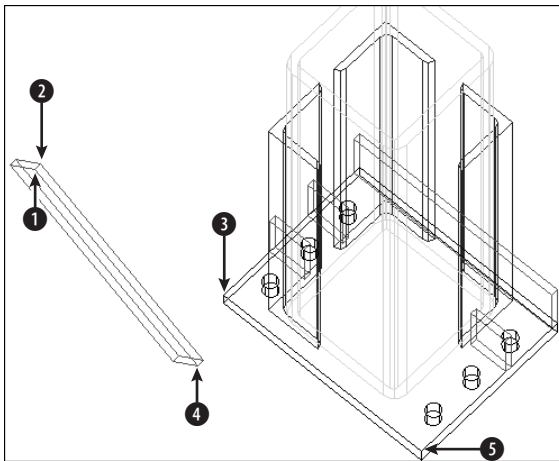

Figure 24-30: Part of a base assembly for an industrial washer with a sidebar that needs to be moved and rotated into place
2. Save the file as `ab24-09.dwg` in your AutoCAD Bible folder. You see part of the base assembly for an industrial washer, as shown in Figure 24-30. One sidebar needs to be moved and rotated into place. Make sure OSNAP is on. Set a running object snap for endpoint.
3. Notice that it's hard to tell which way the sidebar is facing because it is displayed in wireframe. Use the HIDE command to do a hide. This tells you that ① in Figure 24-30 is facing away from you. Use the REGEN command to get back to wireframe display.
Specify first source point: *Pick ❶ in Figure 24-30.*